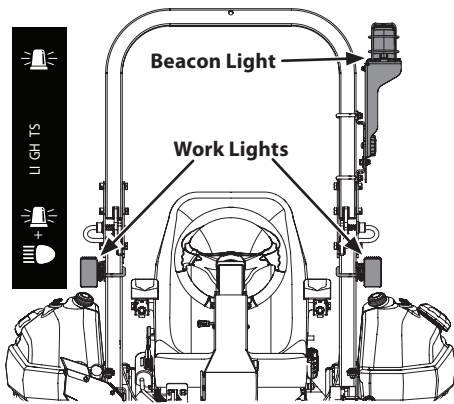

Figure 3-4
- Beacon Light and Work Lights ON (left position). See Figure 3-4.